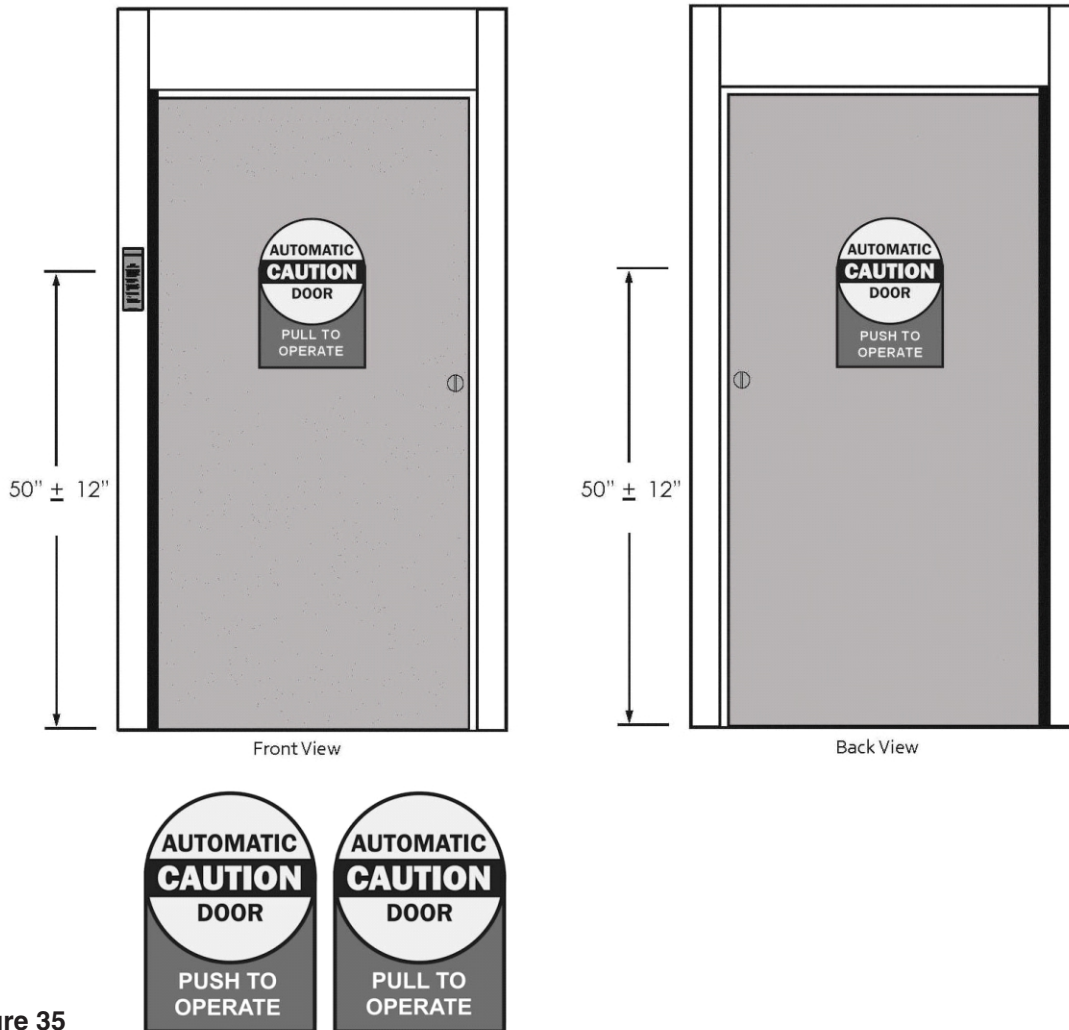

Figure 35
1. Refer to Figure 35, and INSTALL door decals.
2. IF PUSH AND GO is enabled, APPLY "PUSH TO OPERATE" and "PULL TO OPERATE" labels as shown in Figure 35.